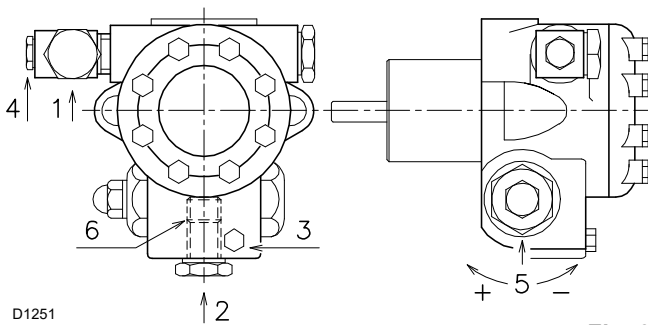

Fig. 30
Since the pump can self-ignite, it is essential to loosen the screw 3)(Fig. 30) of the pump to vent the air from the suction line.
- The pump can be considered to be primed when the light oil starts coming out of the screw 3)(Fig. 30).